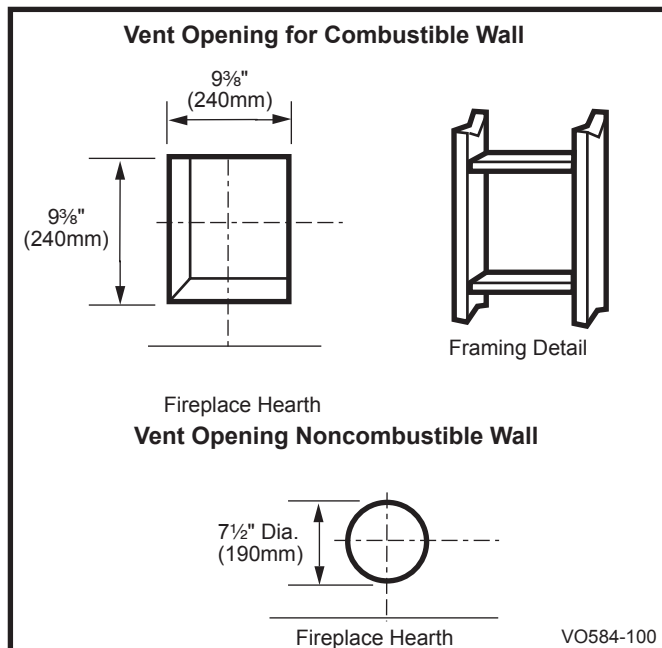

Fig. 31 Locate vent opening on wall.
Locate vent opening on the wall. It may be necessary to first position the fireplace and measure to obtain hole location. Depending on whether the wall is combustible or noncombustible, cut opening to size. (Fig. 31) (For combustible walls first frame in opening.)
Combustible Walls: Cut a 9 3/8"H x 9 3/8"W (240 x 240 mm) hole through the exterior wall and frame as shown. (Fig. 31)
1. Establish vent hole through the wall (Fig. 31)